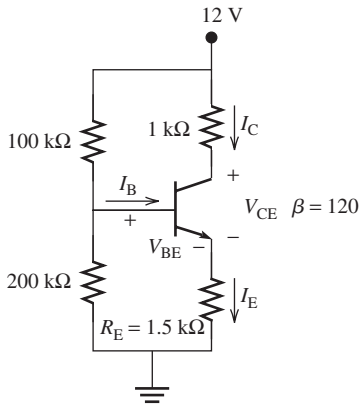
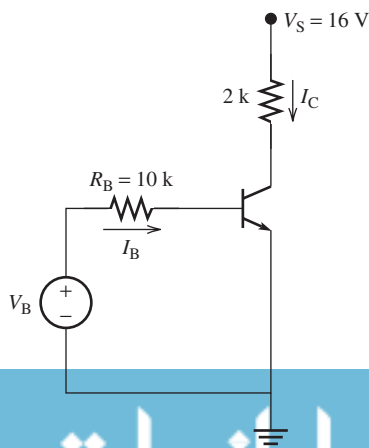
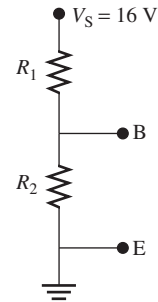

FIGURE P8.42 Circuit for Problem 8.42.
FIGURE P8.44 Transistor circuit for Problems 8.44 and 8.45.
FIGURE P8.45 Hint circuit for Problem 8.45.
8.42 (A) For the circuit shown in Figure P8.42, find V_{BE} , I_B , I_C , and V_{CE} .
8.43 (B) Find the equivalent circuit of the one shown in Figure P8.42. (Hint: the equivalent circuit looks like the one shown in Figure P8.44.)
8.44 (A)* For the circuit shown in Figure P8.44, find V_B such that $I_C = 6$ mA. $\beta = 200$.
8.45 (H) If $V_B = 4$ V for the circuit shown in Figure P8.44, find an equivalent circuit replacing V_B and R_B , having the source from V_S . (Hint: The circuit looks like Figure P8.45.)